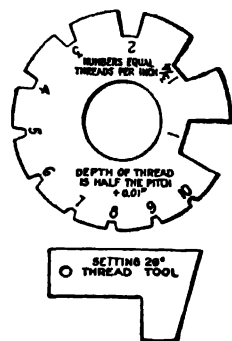

Fig. 17-31. Gages for grinding and setting Acme-thread tools.
1. The Acme-thread tool, external and internal, is ground to gage for the pitch required (see Fig. 17-31).